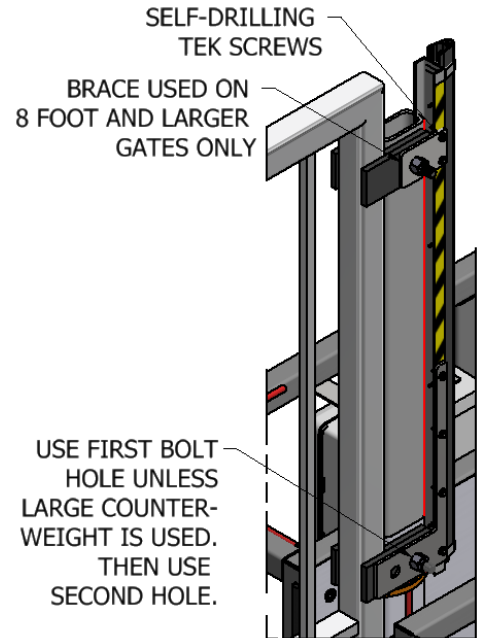

FIGURE 3
- Install upper brace to operator arm as shown in **FIGURE 3**. Loosely tighten the $\frac{3}{4}$ " locknut.
- Screw upper brace into **Arm Open Edge** c-channel using (2) supplied self-drilling tek screws through pre-drilled holes in the brace.